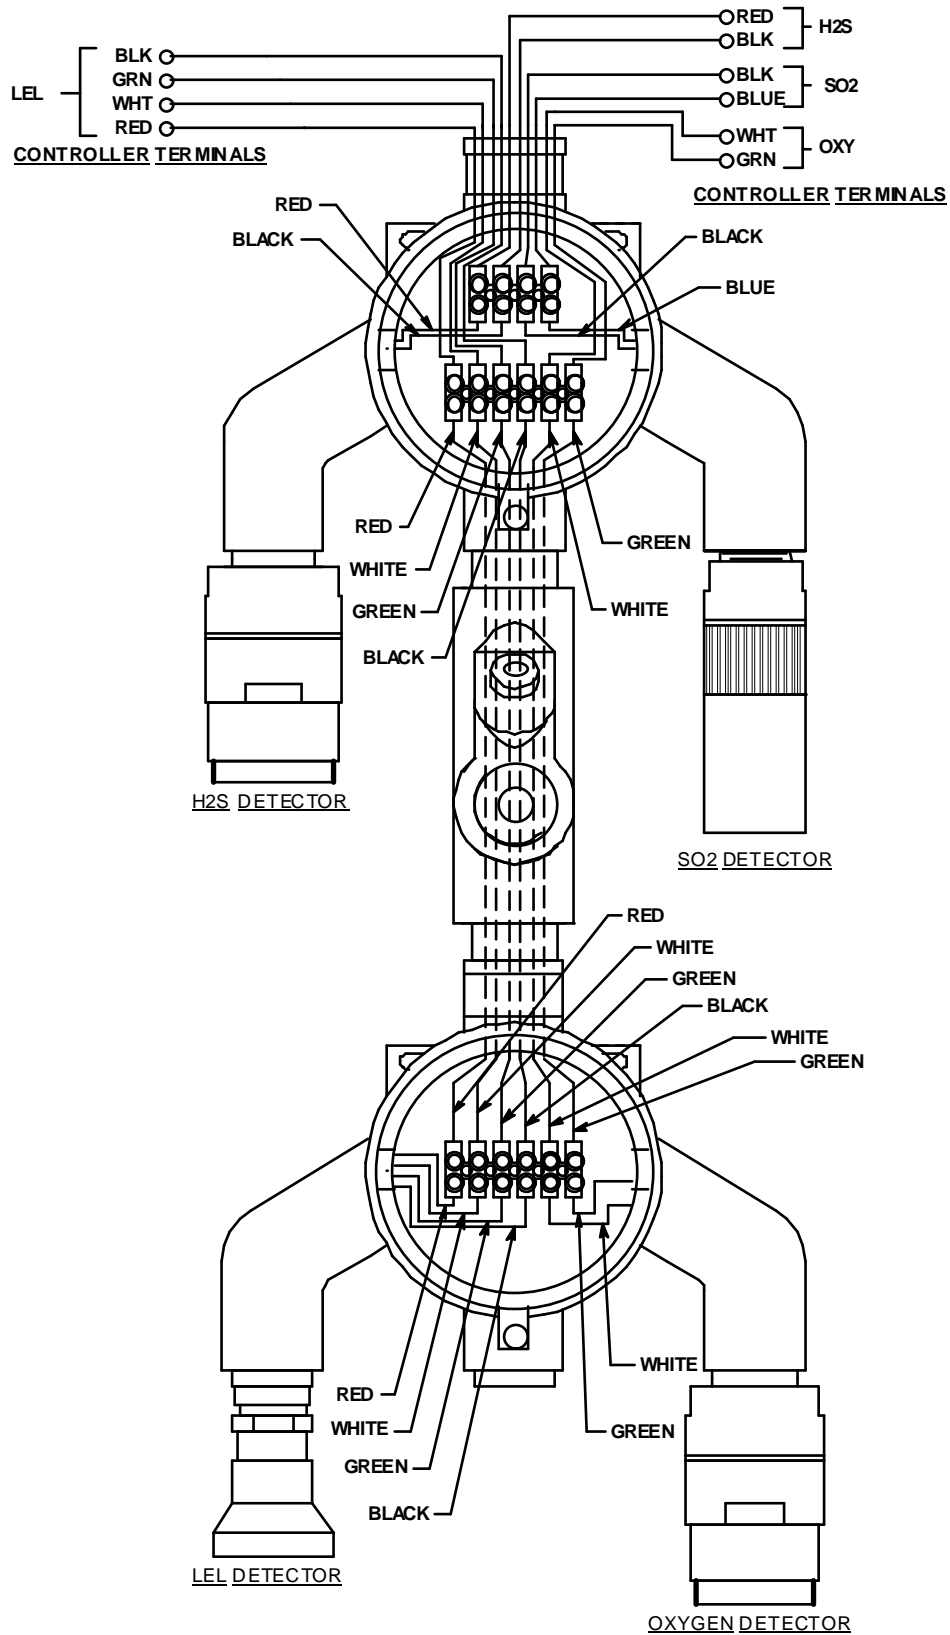

Figure 6: Wiring the 65-2484RK-06 to a Controller
8. Connect the wires to the applicable controller terminal strips. See the controller operator's manual and the controller's detector head specification sheet. Also see Figure 6 for a wiring diagram..
7. Connect the detector leads to the terminal block the same way the old detector was wired. See the controller operator's manual and the controller's detector head specification sheet for the multi-point detector to verify the connections are correct. Also see Figure 6 for a wiring diagram.